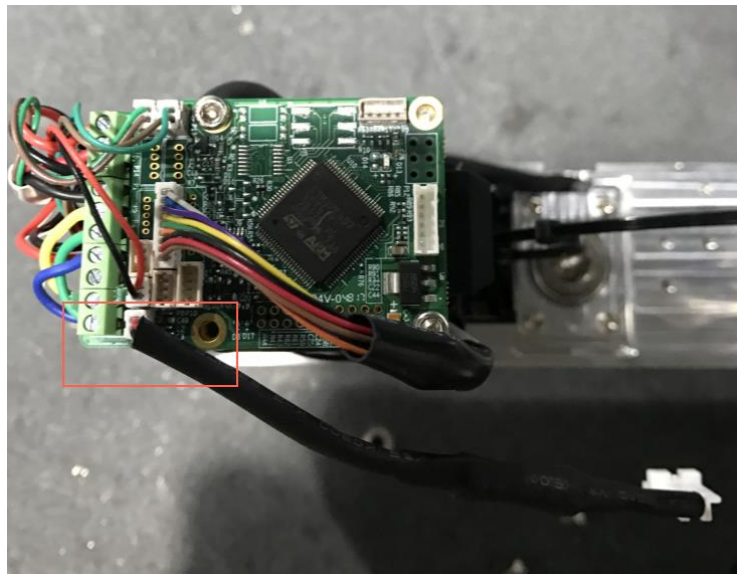

Figure 7.13 Connect the battery adapt to the battery interface
- Step 5** Connect one end of the battery adapter cable to the battery interface on the Driver Board, as shown in Figure 7.13. If it has been connected, please skip this step.